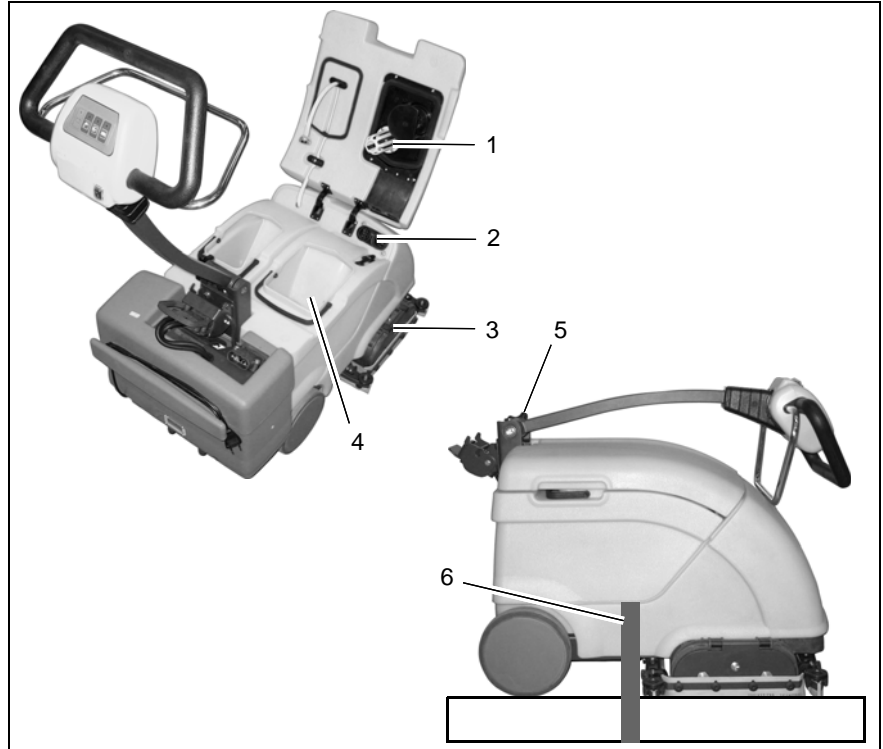

Fig.12
- Check the air intake filter (Fig. 12/1) for blockages.
- Check the sealing (Fig. 12/2) of the recovery tank.
- Check the suction hose and squeegee in the brush head (Fig. 12/3) for blockages.
- Empty the recovery tank (Fig. 12/4).
3. Loosen the adjusting knob (Fig. 12/ 5) and move the shaft to its transporting position.
4. Remove the brushes and set the supporting rollers to their working position. Lash the machine housing to the transportation device with appropriate load fixation devices (Fig. 12/6).